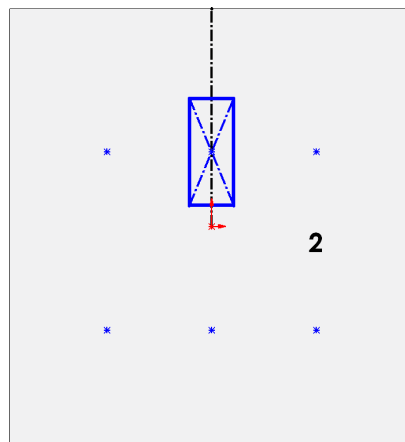

Fig. 13
Step 15. Sketch **center rectangle at first point on centerline**, **Fig. 13**.